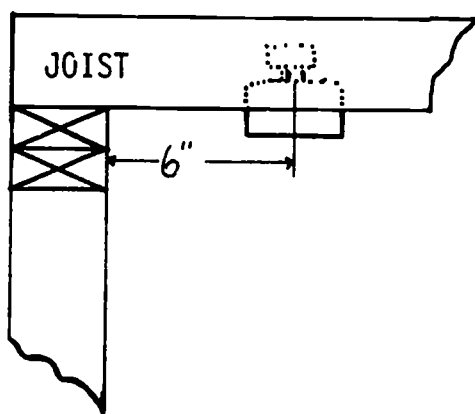

Fig. 52-6. Bar Hanger Location from Wall
4. Mark the location of the bar hanger on the ceiling joists. See Figs. 52-6 and 52-7.